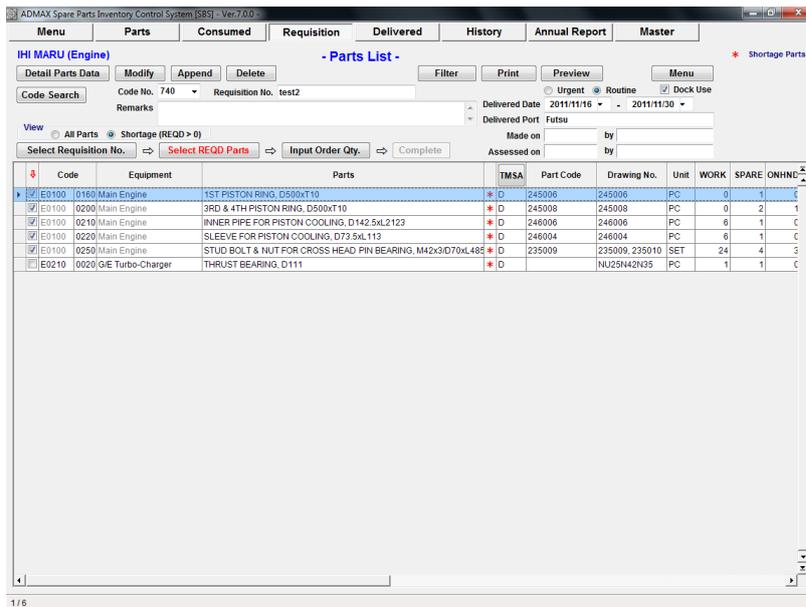

Fig 6.3 Select Required Parts (All Parts)
4. If [All Parts] button was selected, all spare parts registered in database is displayed on "Select Required Parts (All Parts) Screen"(Fig.6-3) and you can select check box by same procedure as step 3.